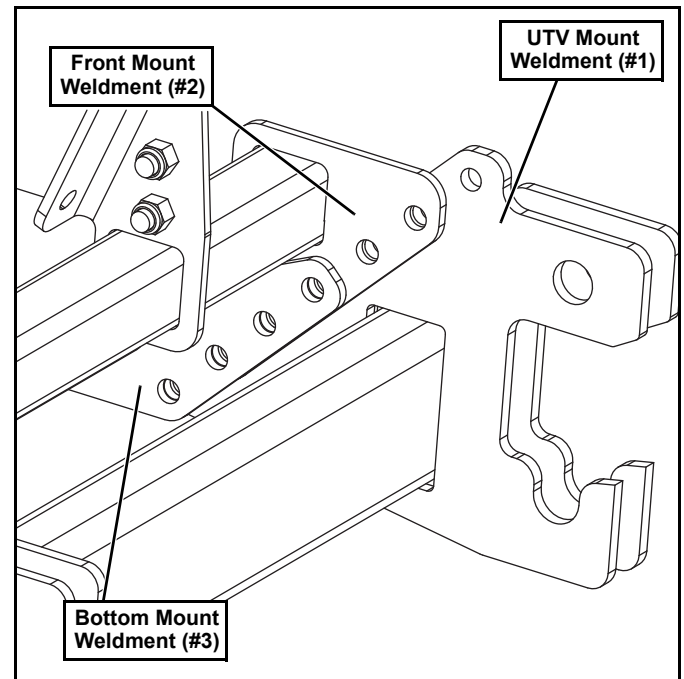
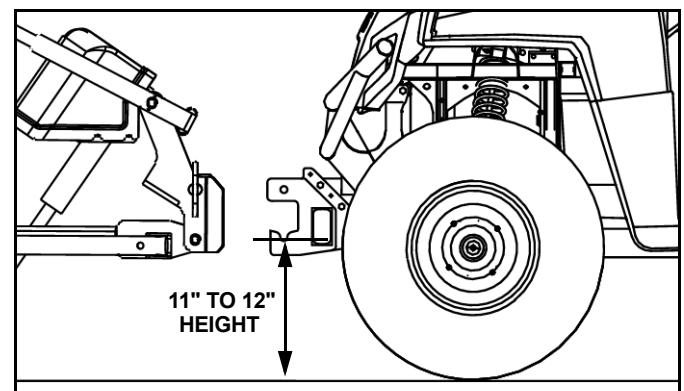

Figure 5
Figure 6
- Align the UTV Mount (#1) with the side holes of the Front and Bottom Mount Weldments (#2 & 3) (See Figure 5). Adjust the height of the UTV Mount (#1) so the center of the bottom slot is 11"-12" off the ground (See Figure 6).